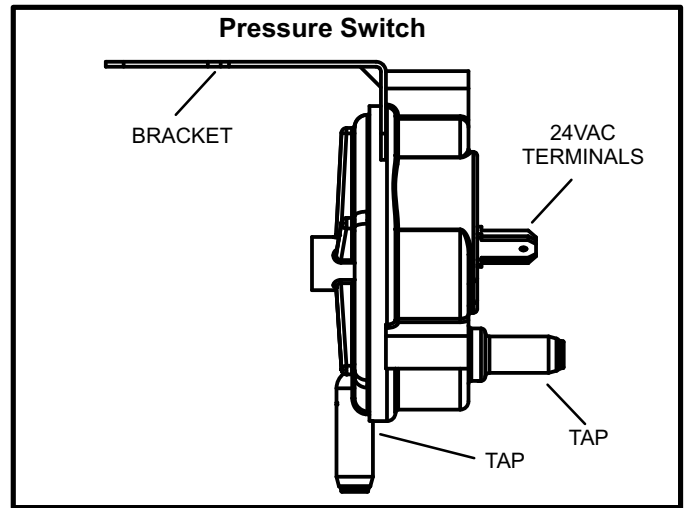

FIGURE 10
8. Combustion Air Pressure Switch (Figure 10)